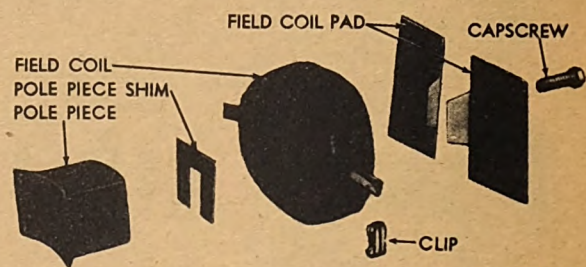

Fig. 311. Exciter Main Field Pole and Coil
- (1) Remove the connection clips from the coil to be replaced.
- (2) Take out the capscrews which hold the pole to its magnet frame. The coils, shims, pads and pole piece may then be removed. Push the pole piece out of the coil and insert the pole piece into a new coil. (See Figure 311.)
- (3) Put the pads back in place. Hold the assembly in position and partially insert the capscrew.
- (4) Turn the coil so that its shape will fit the contour of the magnet frame. Note that the coil must be in such a position so as to allow proper connections to be made. Each coil lead